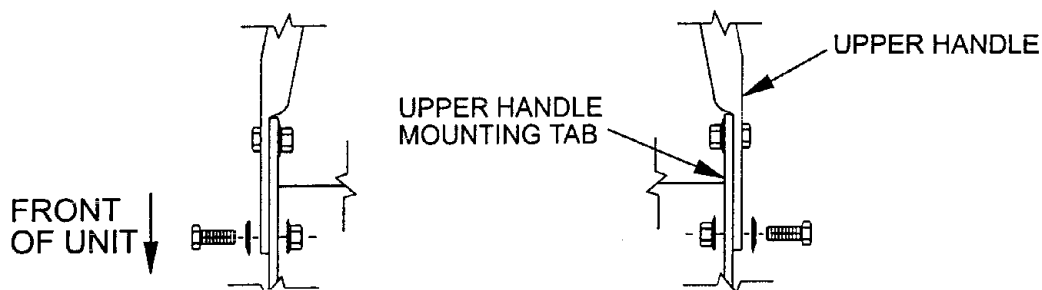

FIG. 1
- 3.9 Position the lower end of the handle assembly on the outside of the upper rear section of the fuel tank & handle support. Install four 3/8-16 x 1" bolts (with four spring disk washers against the head of each bolt) from the outside in. Secure using four 3/8" whizlock nuts on the inside of each handle support and tighten until the spring disk washers are flat (See Figure 1).